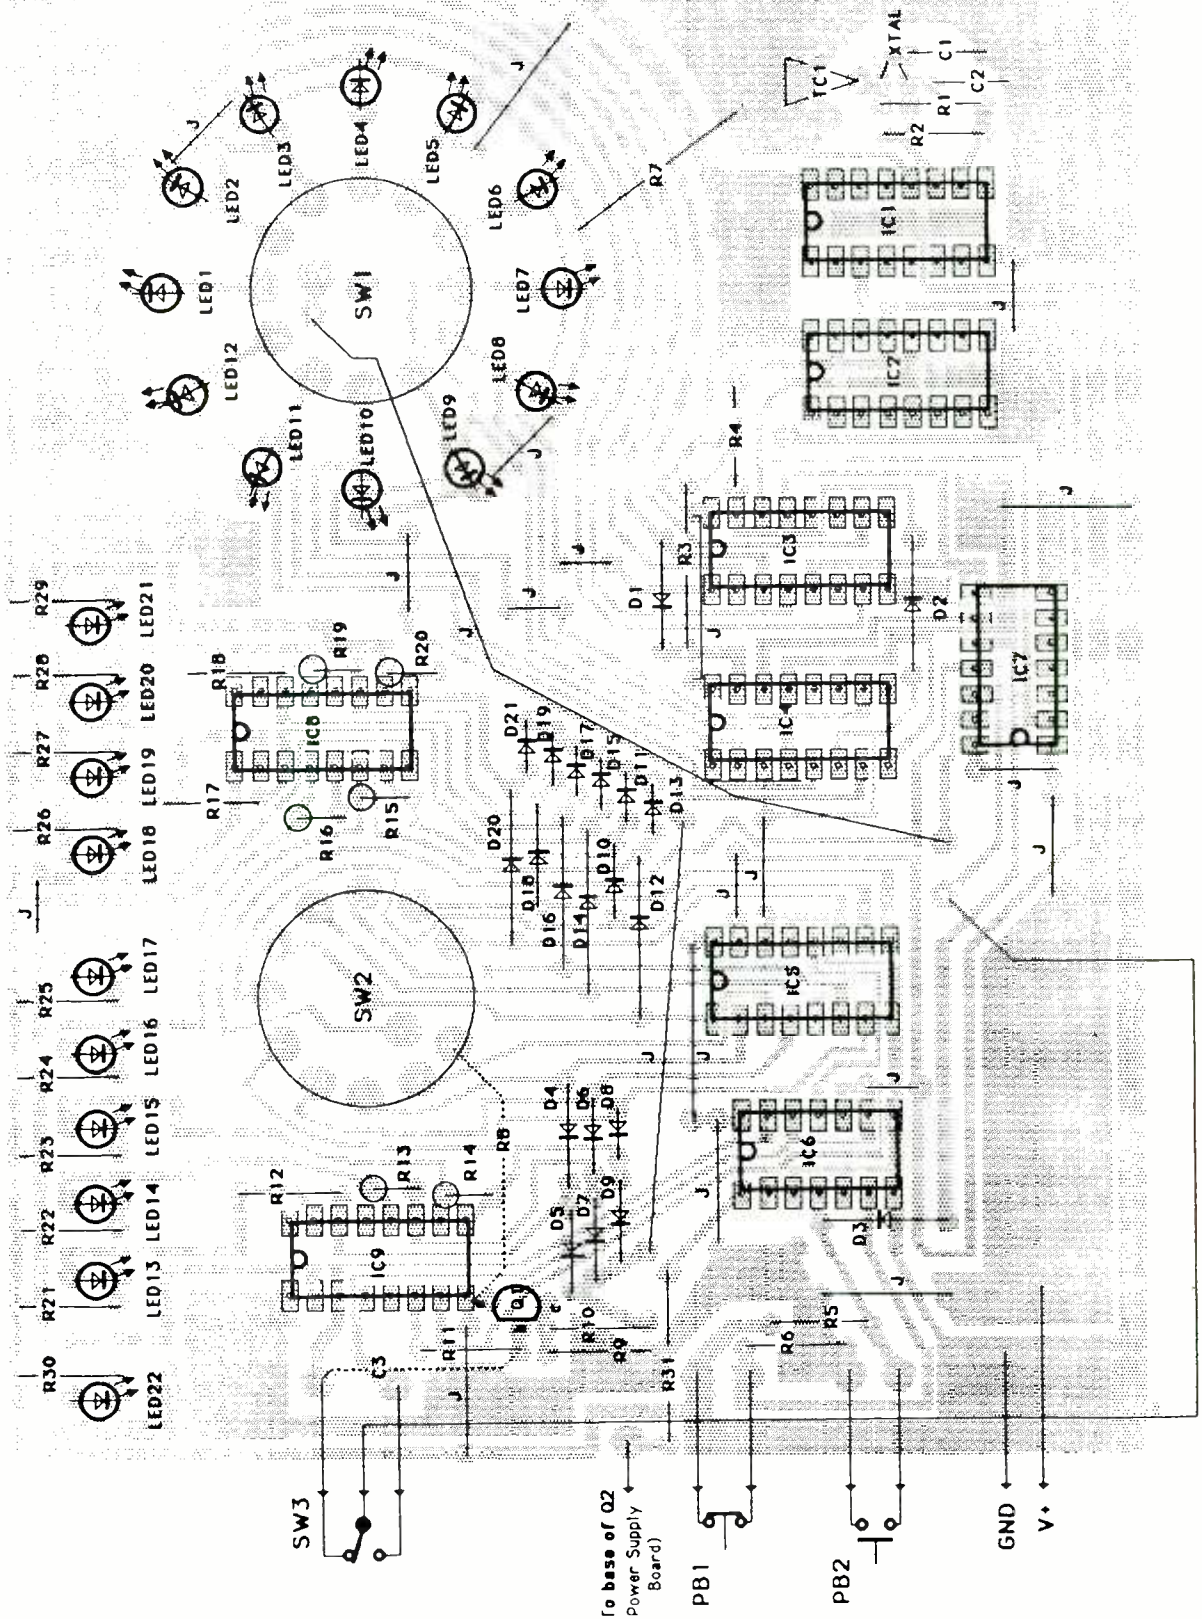
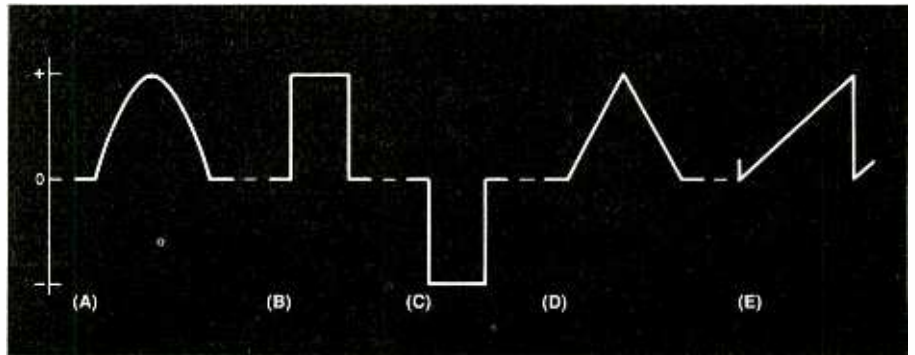

Fig. 6. Wiring guide for counter board.
Fig. 1. Typical examples of pulse waveforms: (A) positive half of a sine wave, (B) positive square wave, (C) negative square wave, (D) triangle and (E) ramp.
Two printed-circuit boards are called for in this project. One accommodates all components shown in Fig. 1, the other most of the components shown in Fig. 3. Fabricate these boards using the actual-size etching-and-drilling guides shown in Fig. 5. When both boards are ready, temporarily set aside the smaller one and place the larger one on your work surface oriented as shown in the Fig. 6 wiring guide.
Refer now to Fig. 1. In (A) is shown a pulse that is derived from a sine wave but is not a perfect sine shape. In this case, you see a half-wave rectified sine wave that, because of its missing half, now exhibits the behavior of a pulse. Positive- and negative-going square pulses are shown in (B) and (C), respectively. (D) illustrates the wave shape of a triangle or "delta" pulse, while (E) is a drawing of a sawtooth pulse.